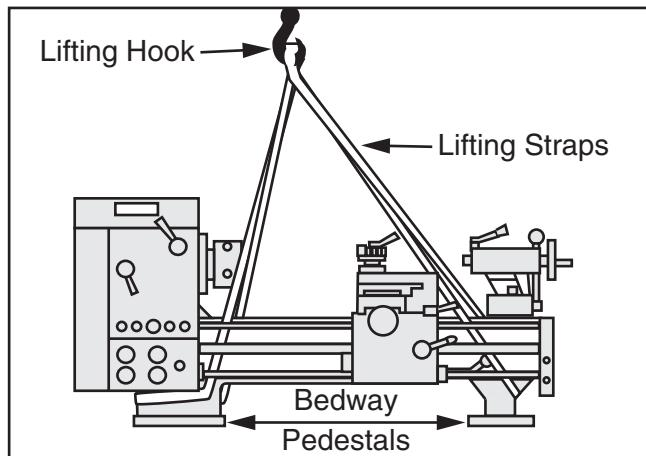
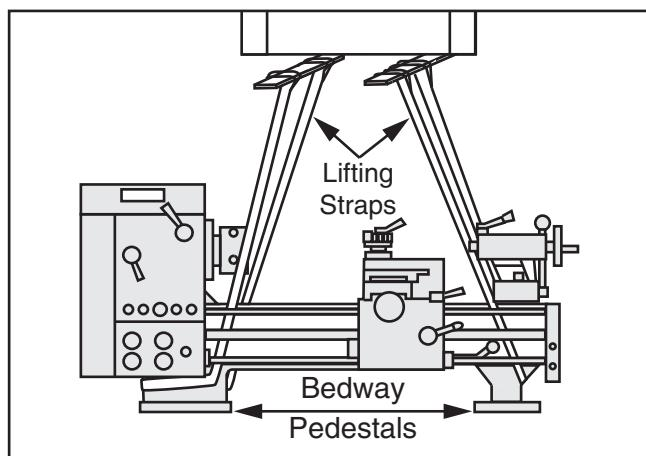

Figure 16. Lifting setup for a crane to keep straps from bending leadscrew and rods.
Figure 17. Lifting setup for a forklift to keep straps from bending leadscrew and rods.
9. Wrap two lifting straps around bedway pedestals and route them behind control rod, feed rod, and leadscrew. Either attach them to a safety hook (see **Figure 16**) or forklift forks (see **Figure 17**). This will keep lifting straps away from these critical components and prevent them bending from during lifting.